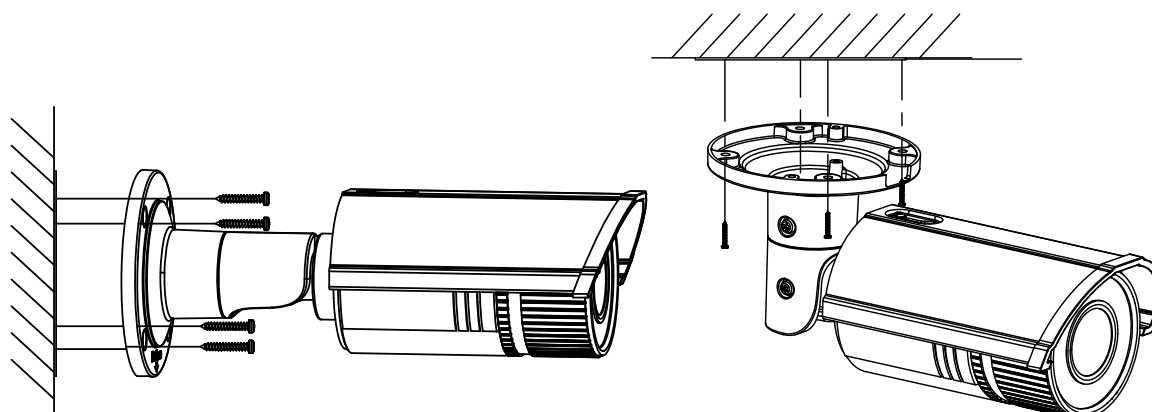

Figure 6-29 Secure the Camera
5. Secure the camera to the wall (or ceiling) with expansion screws. Refer to the Figure 6-29.